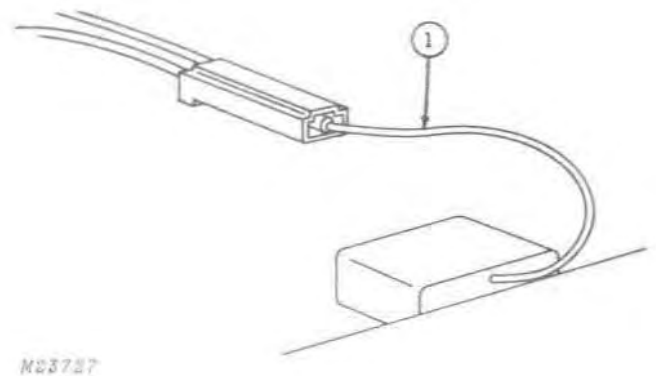

Fig. 2-Testing Voltage Regulator
1. Disconnect the yellow lead from the voltage regulator, Fig. 2.